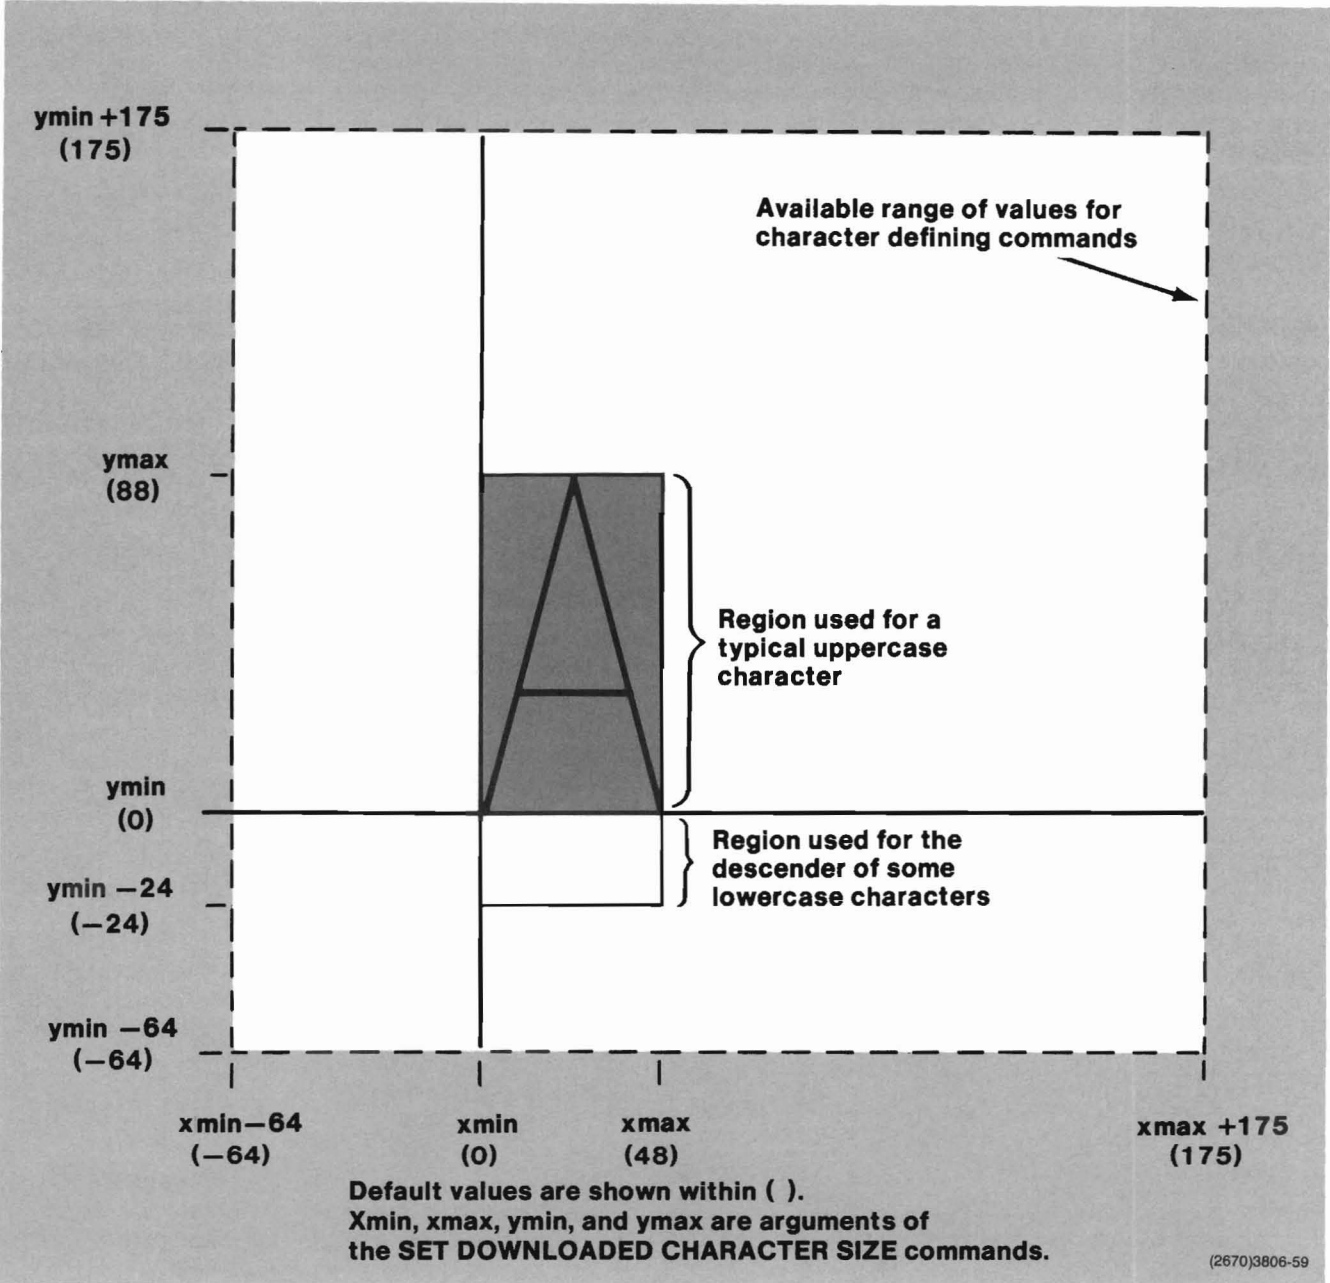

Figure 15-1. Numerical Value Ranges for Character Definition Commands.
The shaded rectangle in Figure 15-1 illustrates the data ranges used to define a typical uppercase character. Alpha size and spacing actions assume that characters are defined within the shaded rectangle. (Characters can be defined as smaller or larger than the shaded rectangle, and will be printed accordingly.)
For most applications, use the default data ranges, shown in parentheses in Figure 15-1. Typical uppercase character data ranges are between 0 and 48 for the X-axis and between 0 and 88 for the Y-axis. Lowercase letters descend to  $-24$  for characters used with other resident font characters. Special symbols may be larger or smaller, as desired.
For other applications, use the SET DOWNLOADED CHARACTER SIZE command (1) to select different data ranges, (2) to utilize an existing character data base, (3) to allow more character definition resolution (for example, 175 by 175 vs. 48 by 88), or (4) to avoid the use of negative values when defining characters with descenders. The SET DOWNLOADED CHARACTER SIZE command sets the ranges for X and Y data. The four specified values correspond to the extremes of the shaded rectangle in Figure 15-1. Two examples illustrate use of this command: